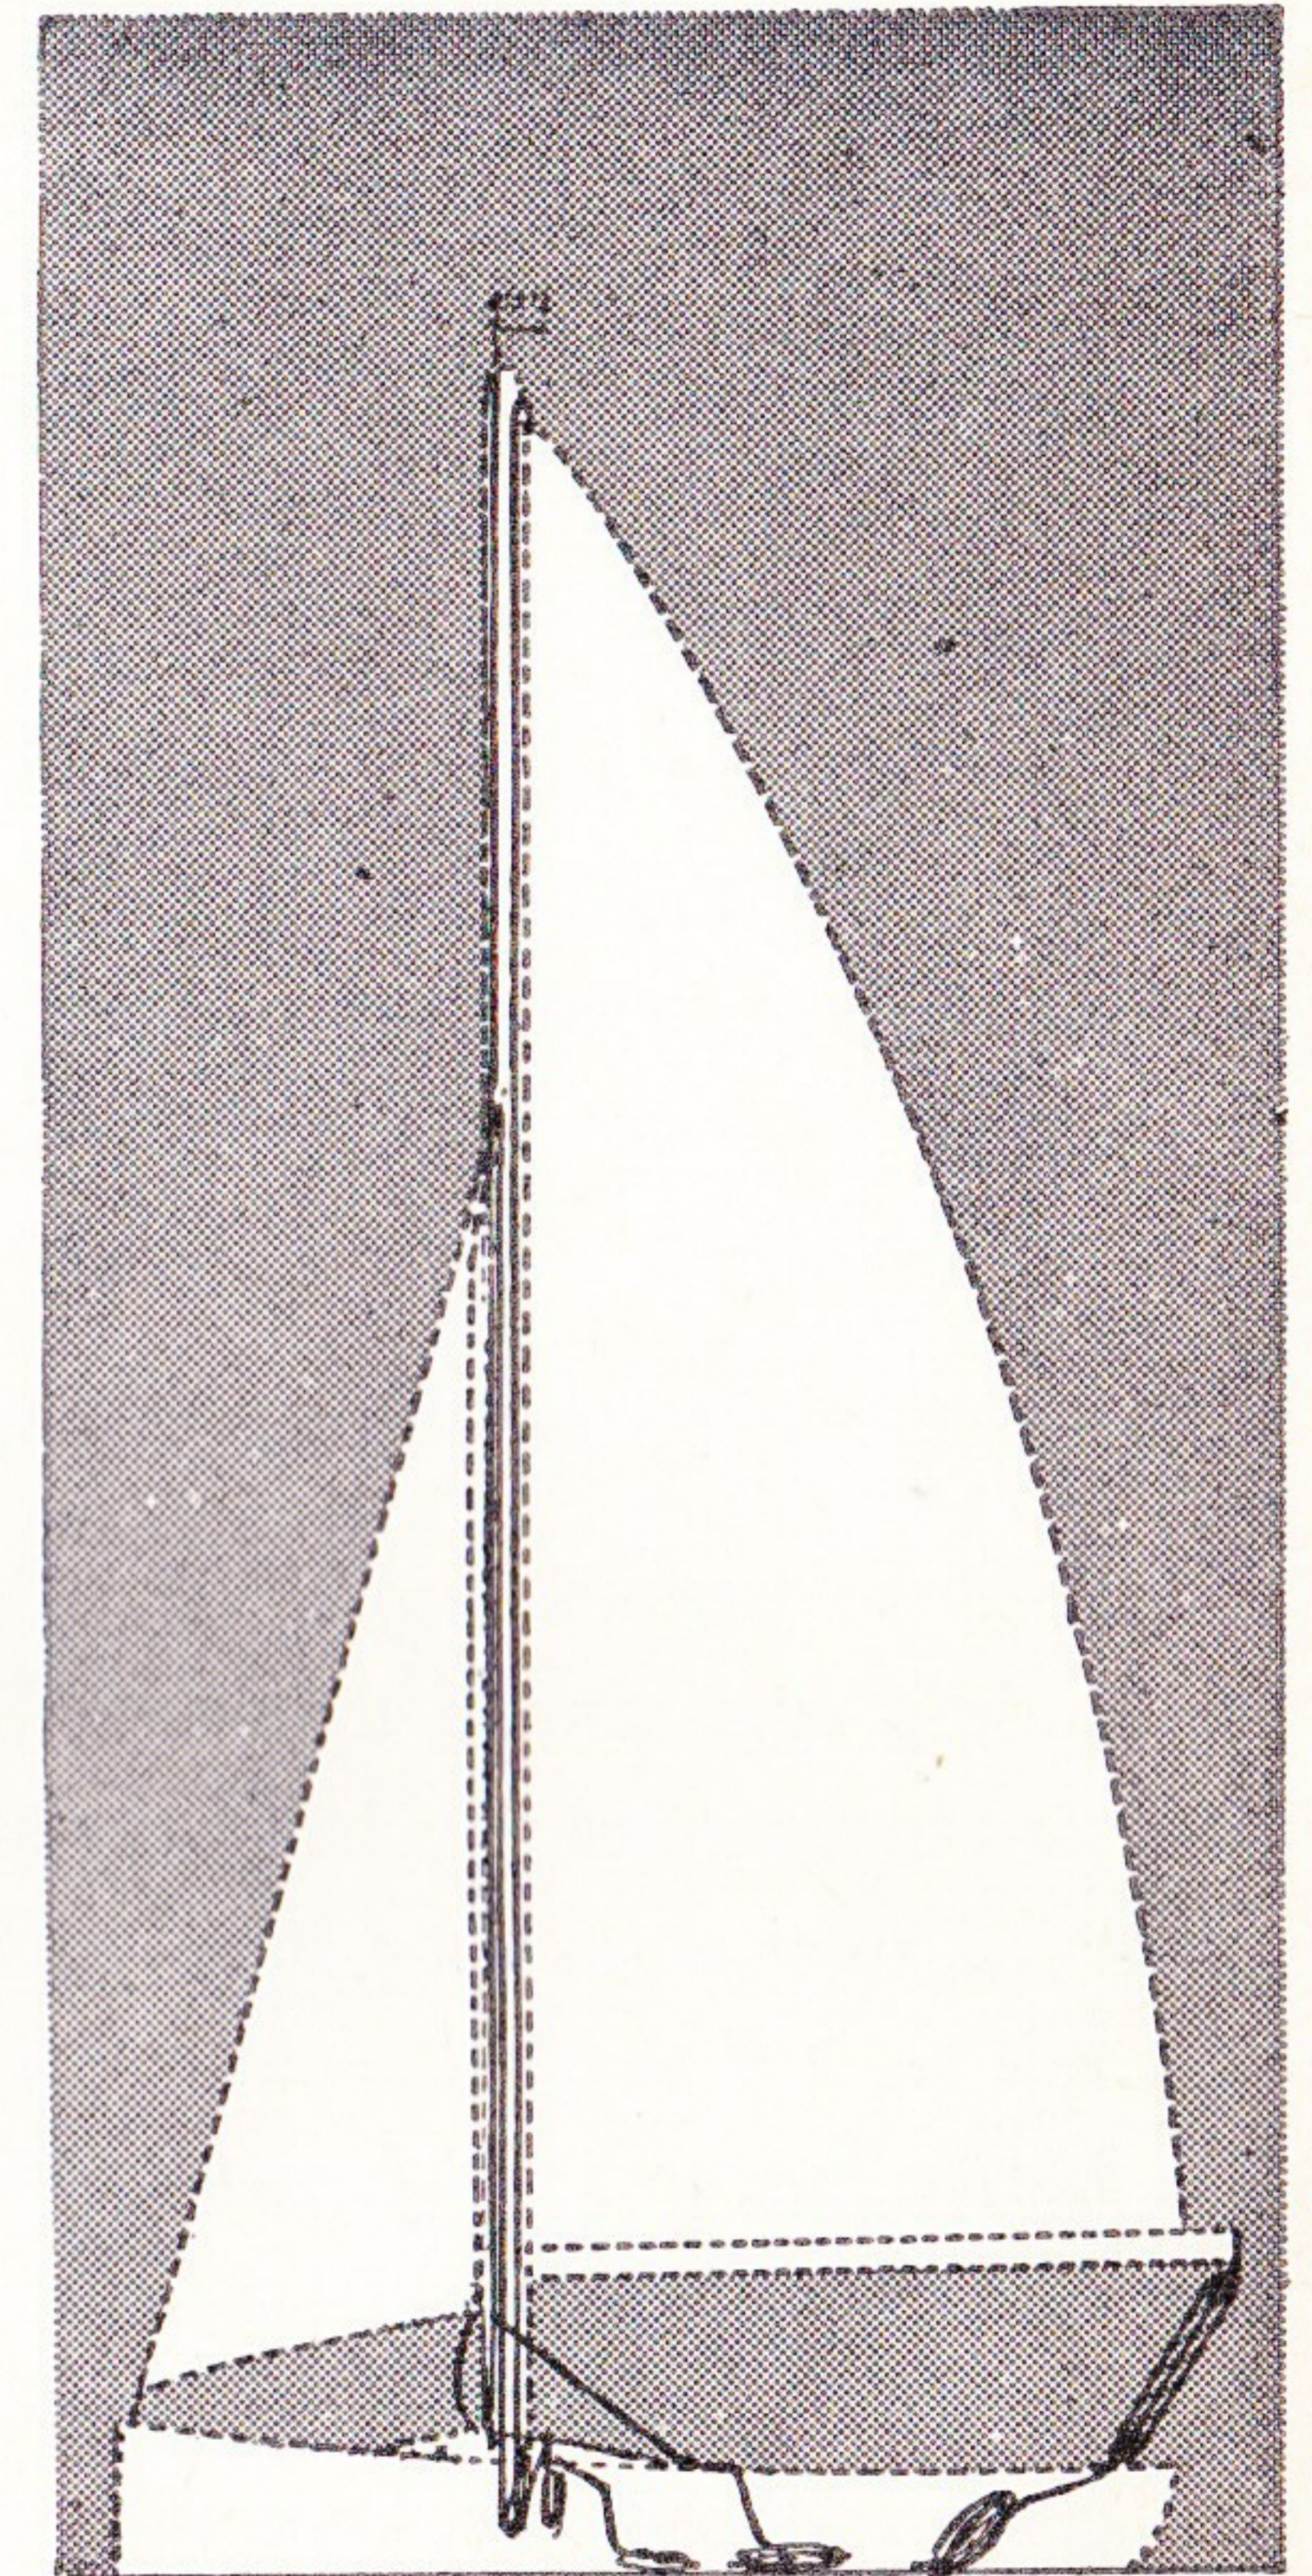

Fig. 16. Running rigging
*Running Rigging* (Fig. 16). The ropes (*halyards*) used to hoist the sails and burgee, are usually of flexible steel, with hemp lanyards or pre-stretched synthetic rope.